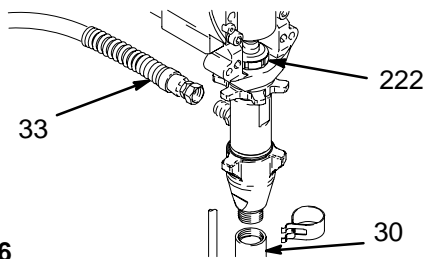

Fig. 16 7672B
3. Fig. 16. Cycle pump with piston rod (222) in its lowest position.
4. Fig. 16. Remove suction tube (33) and hose (33).